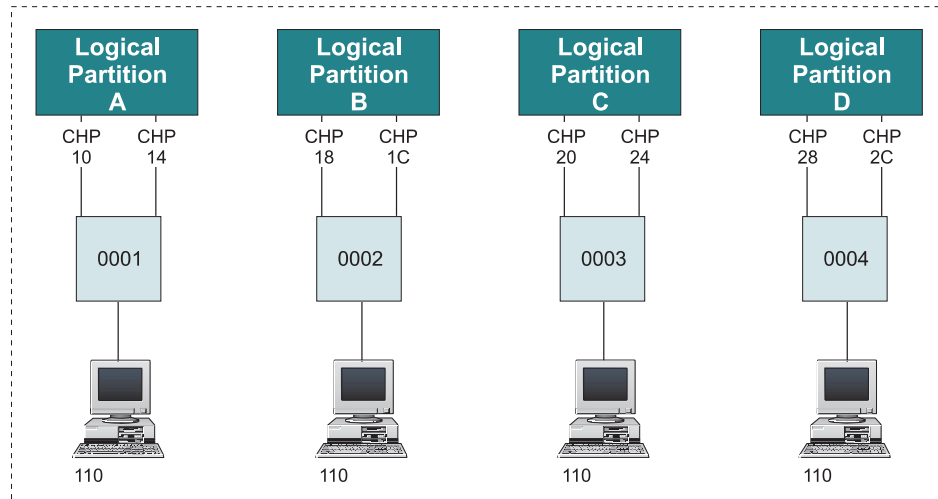

Figure 21. Duplicate device numbers for console
If 8 or less channels attach to the device, this method of defining the IOCP input provides greater flexibility because it allows you to move CHPIDs from one LP to another and eliminates possible conflicts (see Figure 21 on page 59).
Figure 21 shows another example of a logical partition configuration in which the device number for a console (110) is duplicated for all four logical partitions.